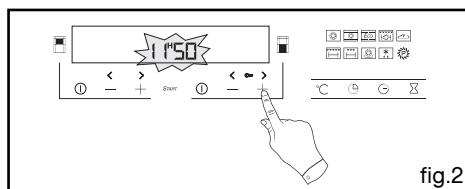

fig.2
Press the button ① (fig.1) then select your cooking programme using + or - (fig.2).